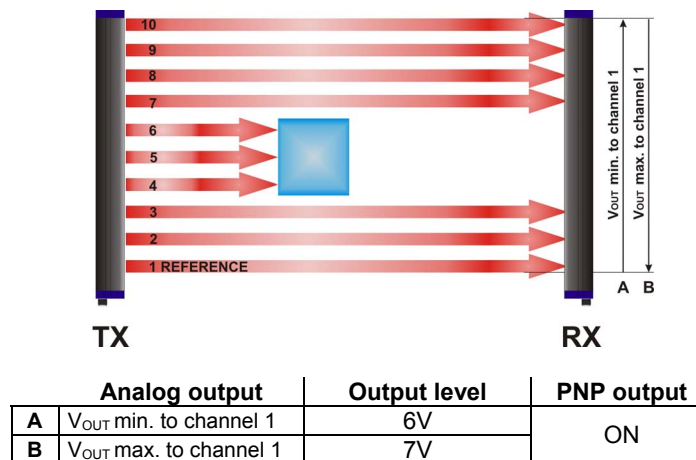

Fig. 10
Fig. 10 can be taken as an example: the obscuring of the beams is considered as corresponding to the V_{OUT} of 1V variation. At the obscuring of the last beam, the V_{OUT} reaches the 10V full scale. If the $V_{OUT\ min.}$ option is set to the channel 1 (A), the V_{OUT} in question will be = 6V; on the contrary will be = 7V (B).